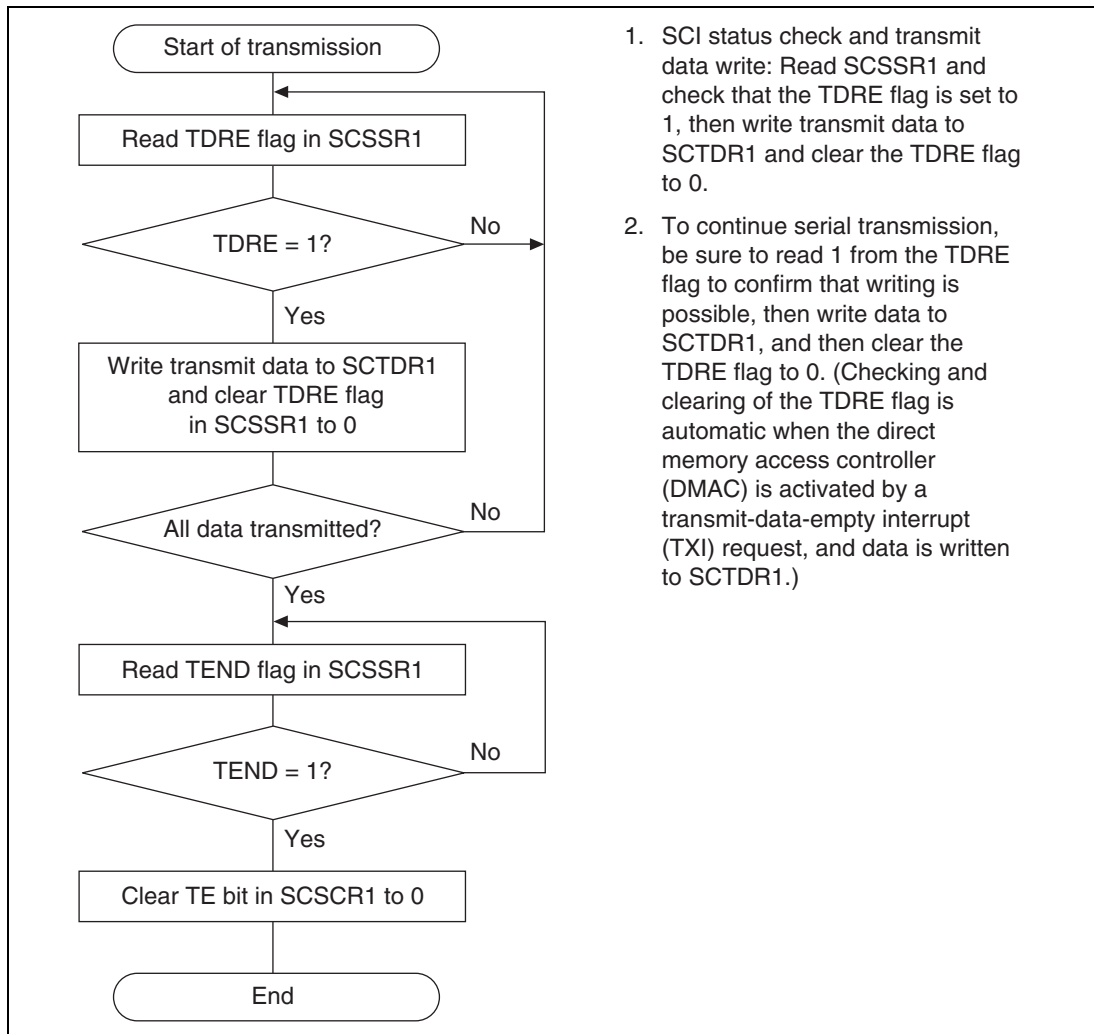

**Figure 15.20 Sample Serial Transmission Flowchart**
**Serial Data Transmission (Synchronous Mode):** Figure 15.20 shows a sample flowchart for serial transmission.